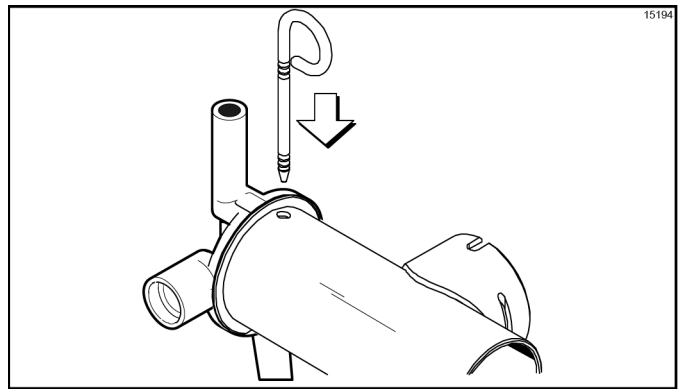

Figure 6-38
9. Secure the pump parts in position by sliding the retaining pin through the cross holes located at one end of the pump cylinder. (See Figure 6-38.)